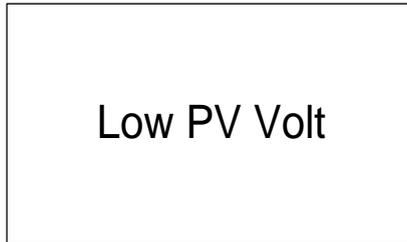

Figure 4-3 Low Volt
(4) If “Low PV Volt” is indicated on the LCD, as shown in Figure 4-3, check whether the DC connection is correct and whether the DC voltage is below 300V (subject to grid voltage).